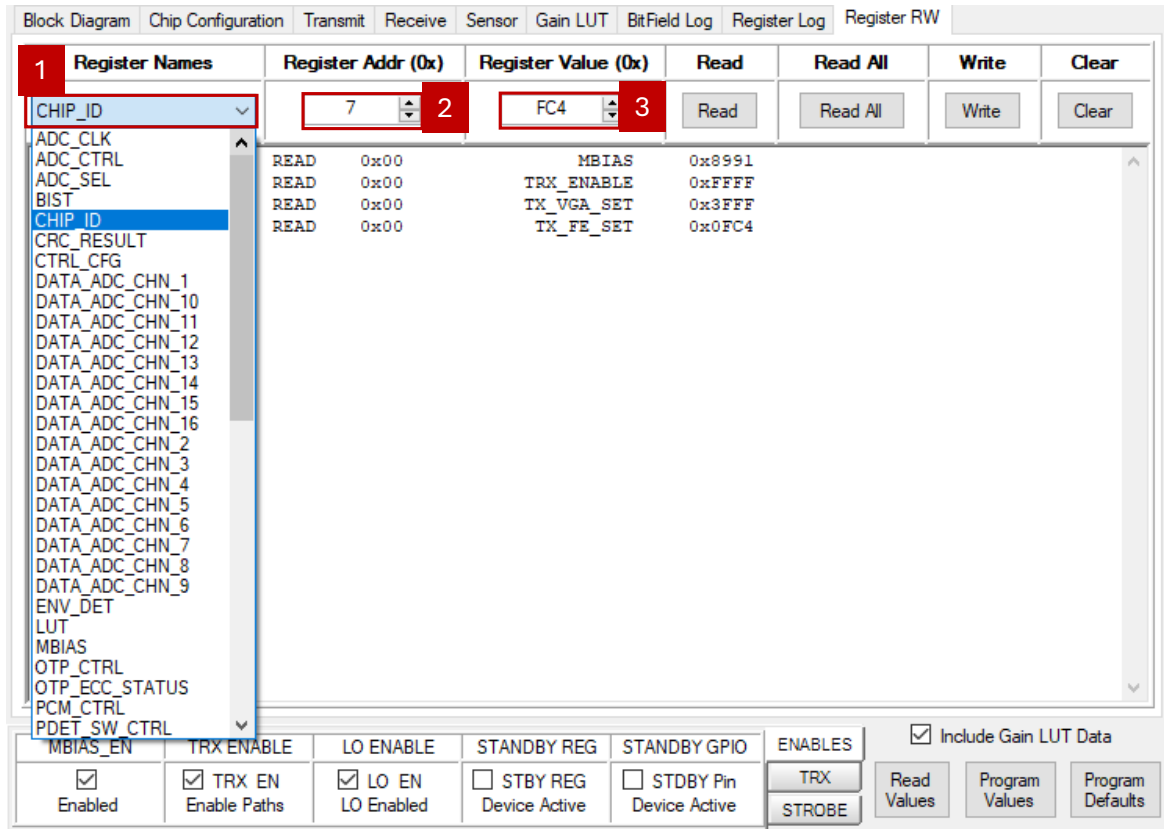

Figure 24. Register RW Panel
17. Users can read or write directly to any writable register using the **Register RW** panel shown in Figure 24. Select the register name from the drop-down menu (Figure 24, item 1). The register address (Figure 24, item 2) will be automatically updated. Click *Read* to read the register value. To write to the register, enter the new value in the **Register Value (0x)** box and click *Write*.